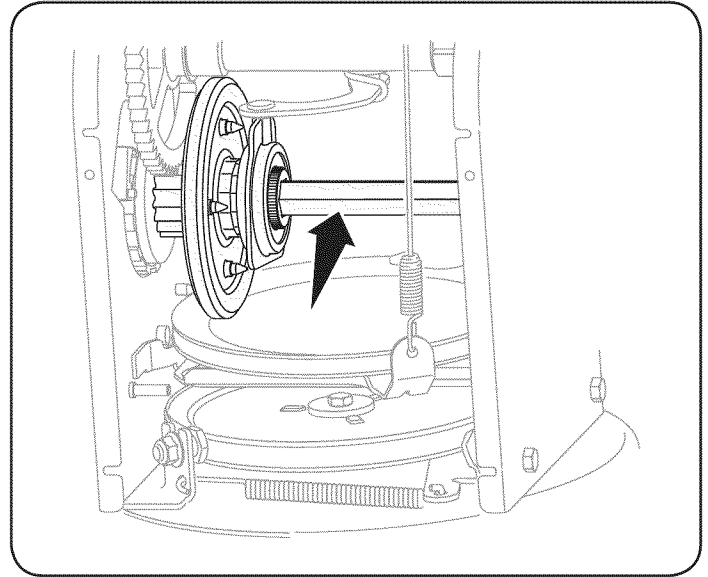

Figure 21
4. Apply a light coating of engine oil (or 3-in-1 oil) to the hex shaft. See Figure 21.